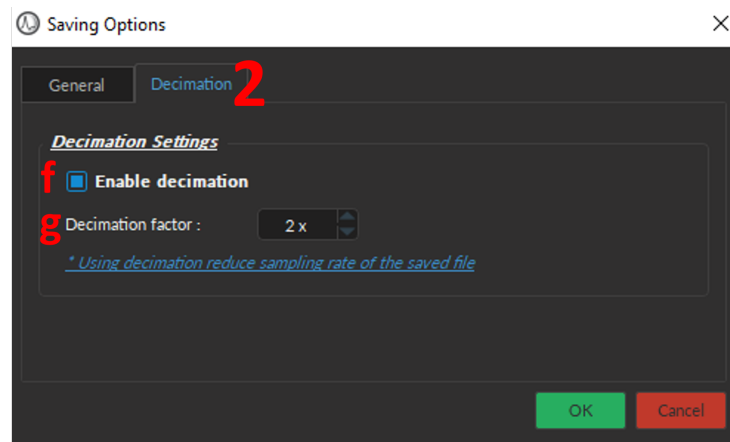

Figure 8.4: Saving Options, Decimation Settings
2. The **Decimation** tab (Fig. 8.4) contains the **Decimation Settings** parameters, including:
- f) The **Enable decimation** checkbox (Fig. 8.4, f) provides a way to reduce the file sizes. This method conserves one point over a number of data points equal to the **Decimation Factor**.
- g) The **Decimation factor** text-box (Fig. 8.4, g) is used to define the number of points saved.¹ Note that decimating a file will reduce the sampling rate of the saved file.